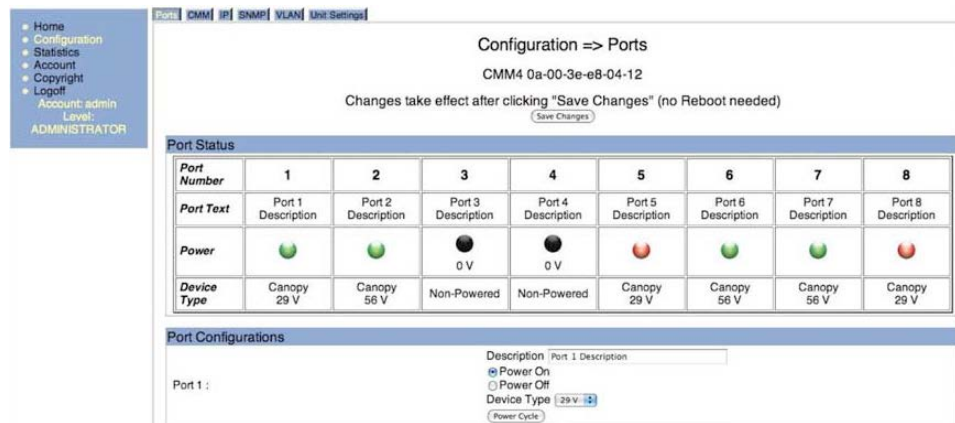

Figure 14: CMM Port Configuration for UGPS Power
- On the CMM4 web management GUI navigate to **Configuration > Ports**. In this configuration the CMM4 port connected to the UGPS via RJ-45 cable must be configured with **Power On** and **Device Type Canopy 29V** as Port 1 in Figure 14.